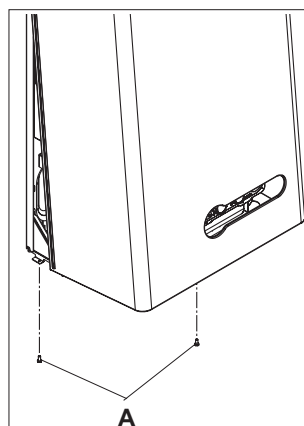

Fig. 24
4.7.1 CASING REMOVAL (fig. 24)